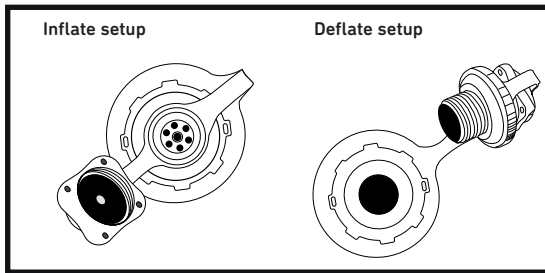

Fig. 1
3. Make sure the pump valve is in the position INFLATE SETUP (Fig. 1).
3. Remove some air from all the modules in order to take out the bars. To do this set up the pump valve in the DEFLATE SETUP (Fig. 1). After removing the appropriate amount of air, set up the pump valve in INFLATE SETUP (Fig. 1).